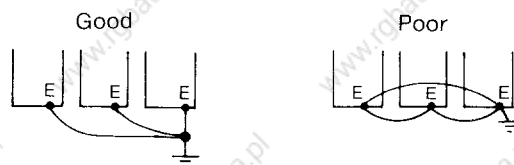

Fig. 4.3 Grounding of Three VS-626MTIII Units
(3) Make a positive grounding using ground terminal E on the casing of VS-626MTIII.
- Where several VS-626MTIII units are used side by side, all the units should preferably be grounded directly to the ground poles. However, connecting all the ground terminals of VS-626MTIII in parallel, and ground only one of VS-626MTIII to the ground pole is also permissible (Fig. 4.3). However, do not form a loop with the ground leads.